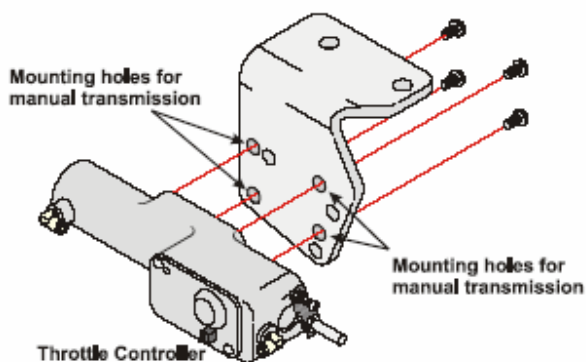

Figure 4.10
- ☐ Remove the bracket from the VMAC throttle controller and mount the VMAC throttle controller to the mounting bracket using the correct holes (Figure 4.10). Use the four 1/4 NC x 1/2 inch bolts with Loctite on the threads.